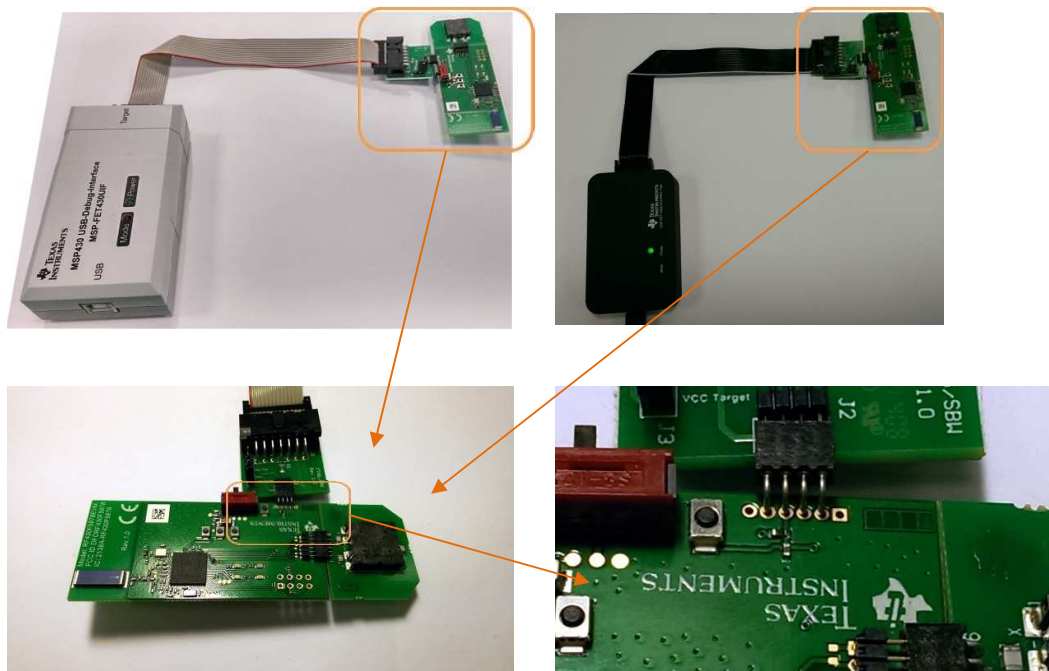

Figure 21. Connect FET Tool to RF430F5978EVM Module
3. Connect the 4-pin connector to the RF430F5978 SBW pins on the RF430F5978EVM top layer and place the 4-pins in central position (see Figure 21).